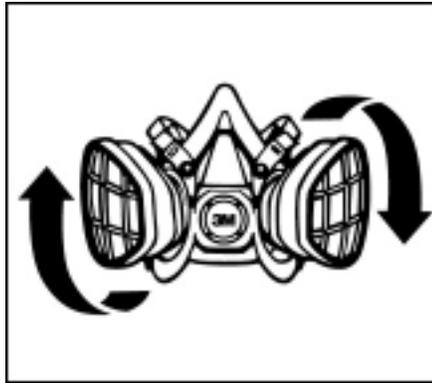

Fig. 2
2. Turn cartridge clockwise to stop (1/4 turn). (Fig. 2)